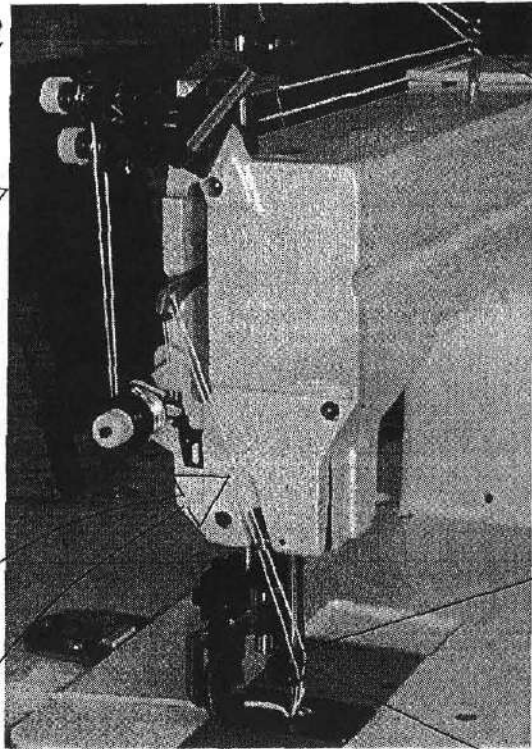

Fig.5
- From behind through the inside hole in thread take-up lever, as show in Fig.5 ◦